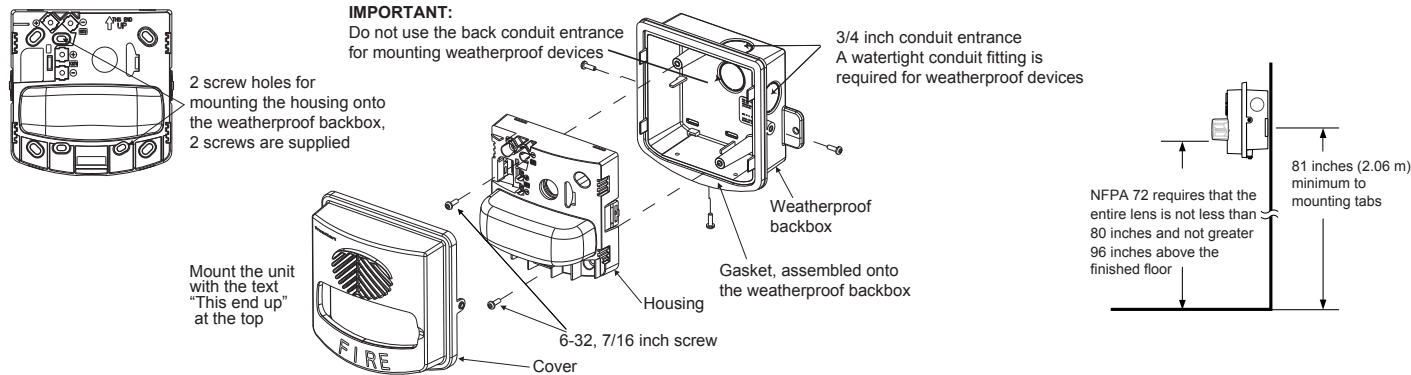

Fig 3: Mounting instructions
- Select the mounting location and install the weatherproof backbox using stainless steel screws suitable for the mounting surface. See Figure 3 for mounting and location information.
- Use the mounting holes indicated in Figure 3, to secure the housing to the backbox. Use a torque wrench to tighten the screws to 5-7 inch-pounds, do not over-tighten.